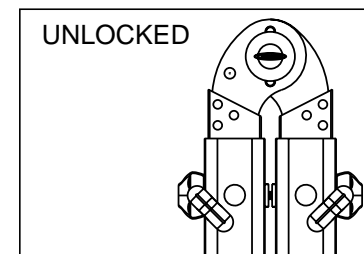

Figure 3
- 1) Unlock the 4 "J" locks by pulling out and rotating the "J" lock away from the rung hole (See Figure 3).